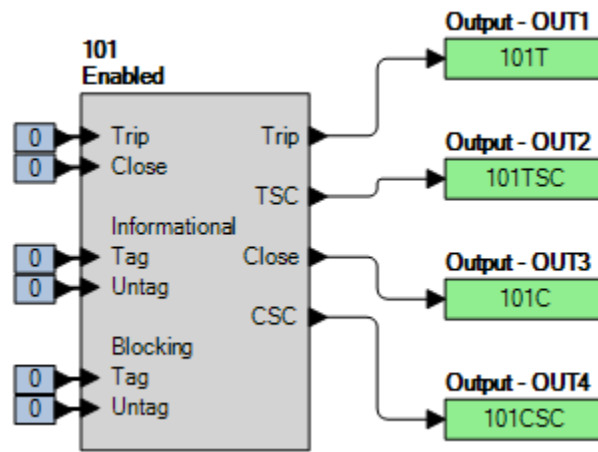

Figure 87-1. BESTlogicPlus Settings
Step 2: Use BESTCOMSPPlus to configure the BESTlogicPlus Programmable Logic shown in Figure 87-1.